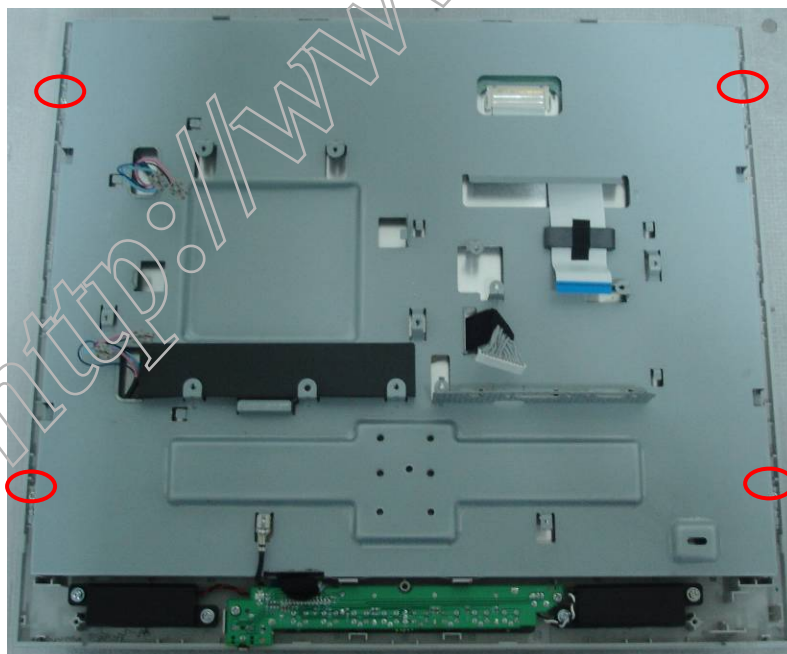

Fig.8
8. Remove the bezel as Fig.8.
Remove the 4 screws as Fig.8 to remove the bezel.